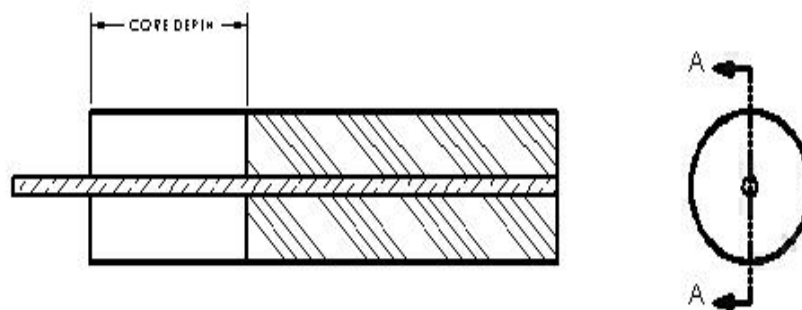

Fig. 1
- 4.3. Ensure the dial caliper is calibrated, and reads zero in the closed position. Extend the caliper out until it is just longer than the expected core depth as seen in Figure 1. Insert the dial caliper measuring blade inside the cored cable until the blade gently contacts the dielectric and lightly push down until the calipers butt contacts the cable outer sheath. Record this value as core depth. Record three measurements 120 degrees apart and average. The average core depth must meet the connector manufacturer's specification for core depth.